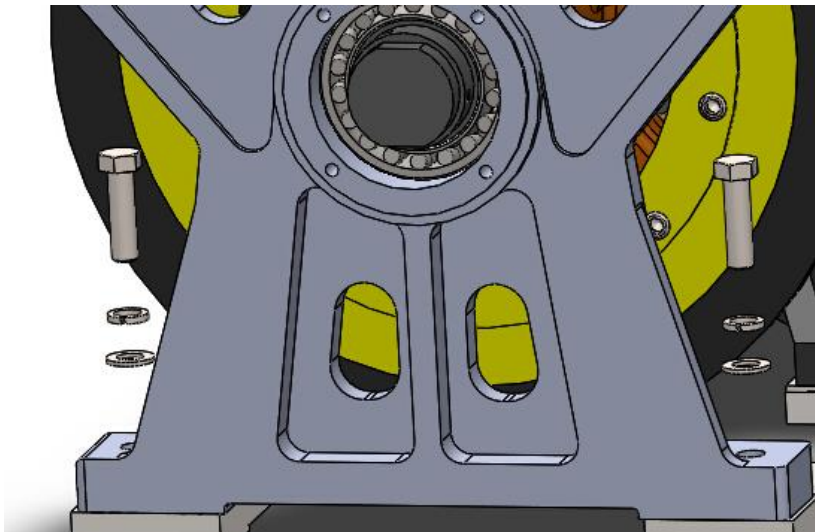

Figure 58: Remove M24x80 bolts
7. Loosen the bolts M24x80 (2 pieces) with lock washer24 with end wrench (36mm). Also remove 2 alignment pins using a M10 bolt to pull the pins. See Figure 58.